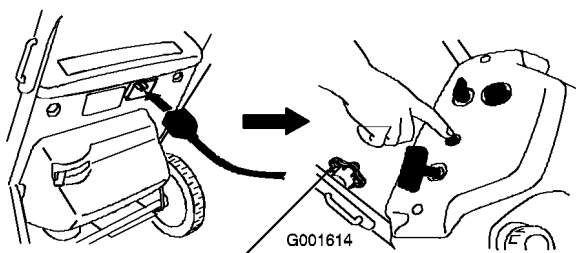
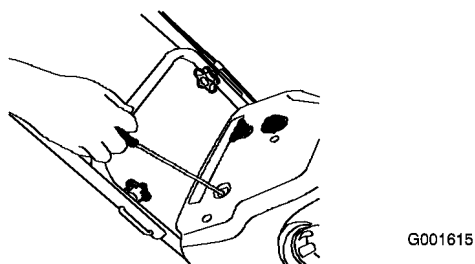

Figure 14
Figure 15
4. Push the electric-start button (Figure 14) or pull the recoil starter (Figure 15).